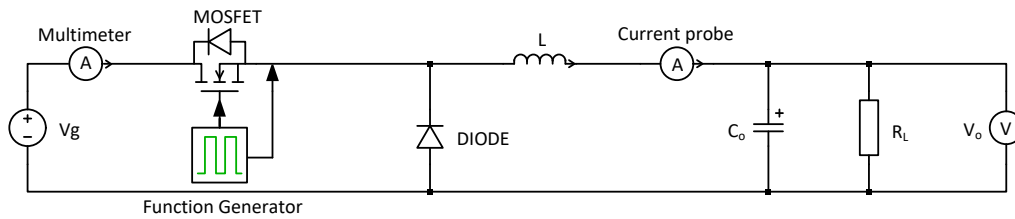

Figure 1. Buck converter
1. Build a buck converter (Figure 1.) and follow the steps:
- o Connect the power supply "+" to the Drain of MOSFET and the "-" to the return path of the circuit (Figure 1.)